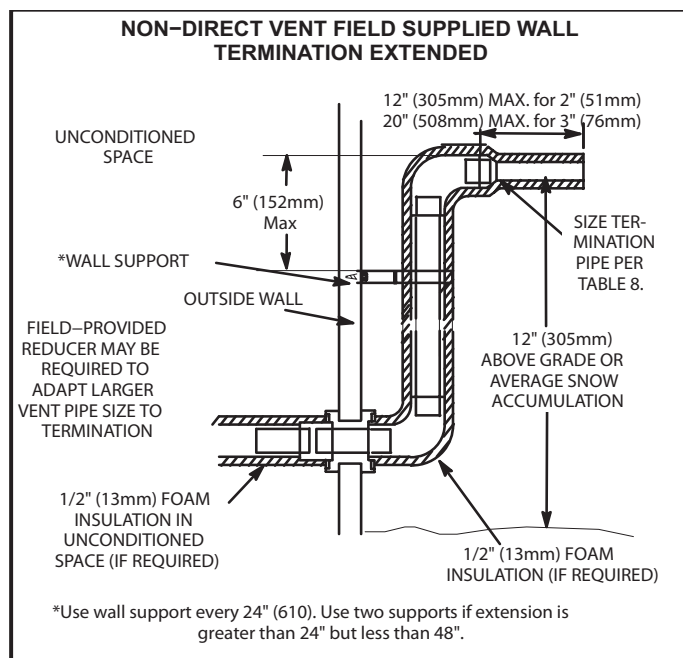

FIGURE 36
3. If exhaust piping must be run up a sidewall to position above snow accumulation or other obstructions, piping must be supported every 24" (610 mm) as shown in Figure 36. When exhaust piping must be run up an outside wall, any reduction in exhaust pipe size must be done after the final elbow.